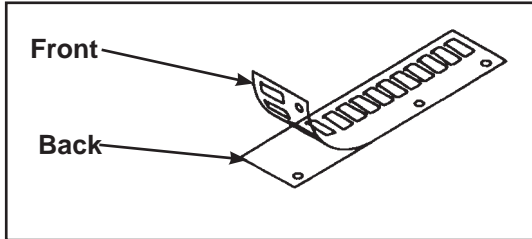

Figure 11
- 9. **Install weight plate decals** (see steps 9A - 9E and Figure 11).